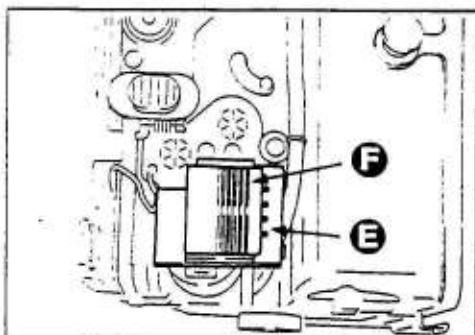

Fig.5
1. Before reassembling right cover, insert the RC cover **F** to the RC pin base **E** from the direction RC and then assemble right cover. (See Fig. 5.)